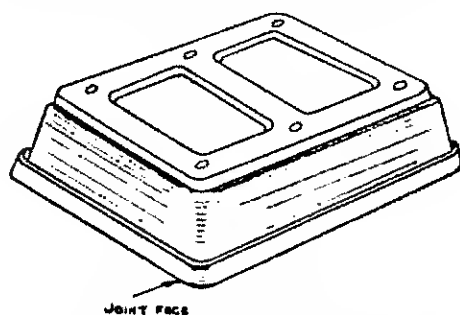

Fig. 7.—Example of Hollow Casting
**Further Examples.**—The example shown by Fig. 7 is rather more complicated on account of being hollow. This piece may be cast inverted in the bottom box, the hollow portion being made by sand projecting below the joint face of the top box. To do this, a smooth bench board is cut out to fit loosely between the locating jaws of the bottom box, to act as a surface to work on. The box is next in-
and one where a core was used. This latter method is not absolutely necessary, for it will be seen that with the exception of the open top the casting comes under the same category as Fig. 7, and may be moulded likewise; but the difficulty of making a hollow pattern is greater than making the simpler pattern and core-box demanded by the method adopted.